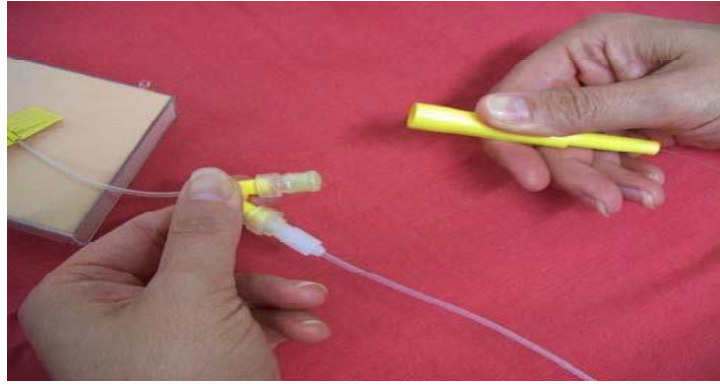

Fig 12.
9. With gentle pulling action, pull the needle encasement away from the "Y" connection. (fig 12.)